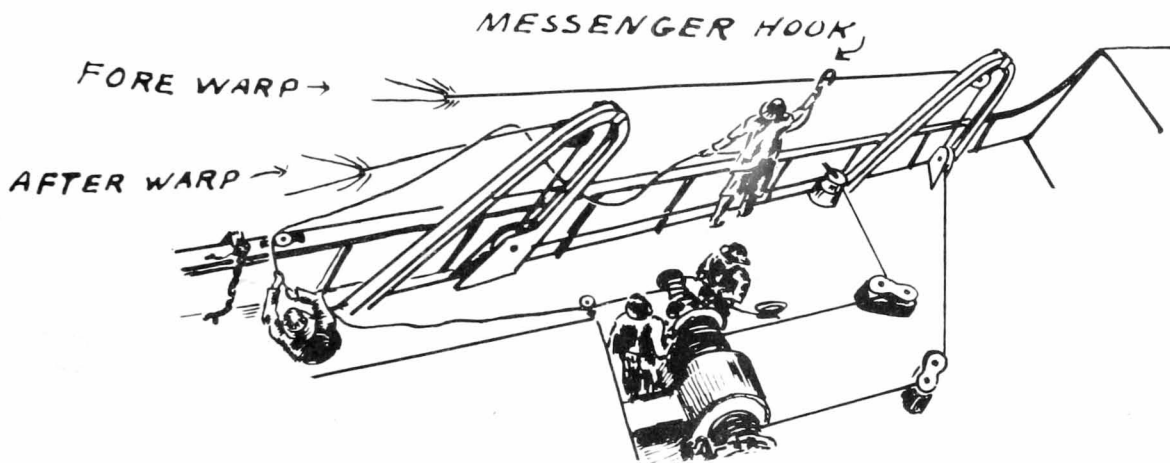

Fig. 10. Use of Messenger Hook to Secure Trawl Warps.
10. The cod-end man hooks the messenger on the forewarp (fig. 10).
11. As the messenger hook slides down the forewarp, the hook-up man takes in the slack wire by hand and places the messenger wire in the quarterblock situated on the railcap aft of the aftergallows (fig. 10).